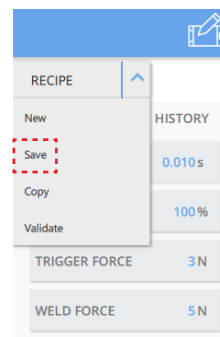

Figure 6: RECIPE dropdown > Save
4. In the recipe dropdown menu, select SAVE (see Figure 6)